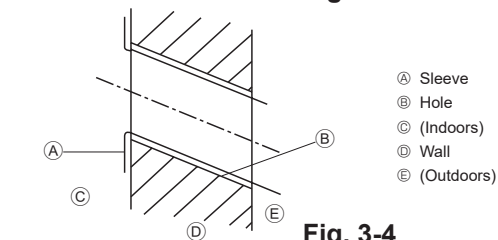

Fig. 3-4
3.2.2. Drilling the piping hole (Fig. 3-4)